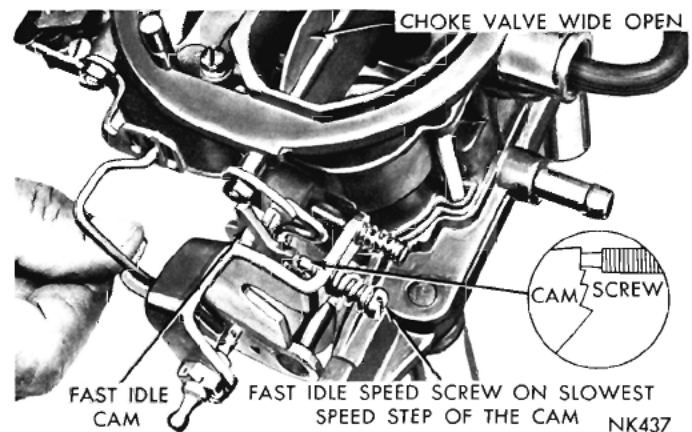

Fig. 24—Fast Idle Speed Adjustment (on the Engine)
(1) With the engine running and the transmission in the neutral position, open the throttle slightly.
(2) Close the choke valve about 20 degrees then allow the throttle to close. Return the choke valve to the open position.
(3) The fast idle speed adjusting screw should be contacting the lowest step on the fast idle cam, as shown in (Fig. 24).
(4) With the engine warmed-up to the normal operating temperature, turn the fast idle speed adjusting screw in or out to secure 700 r.p.m. (Automatic Transmission) or 700 r.p.m. (Manual Transmission).